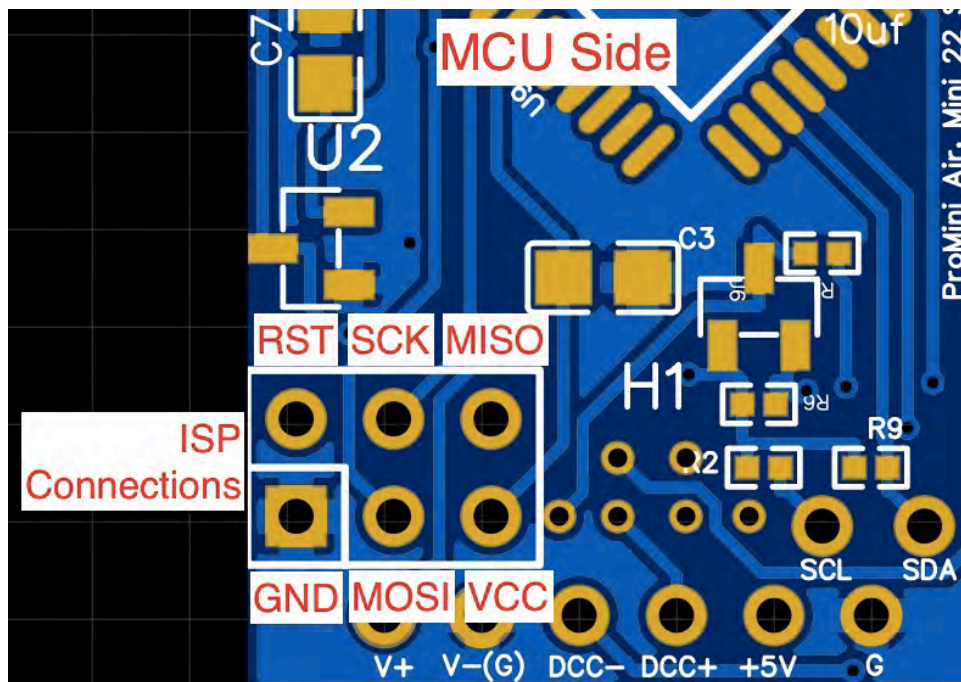

Figure 14: ProMiniAir connections for AVR programmer (MCU side view). Newer versions do NOT have jumpers.
- AVR “ISP” programmer connections (Figure 14), Section A provides details on how to re-program the ProMiniAir using the AVR “ISP” programmer.